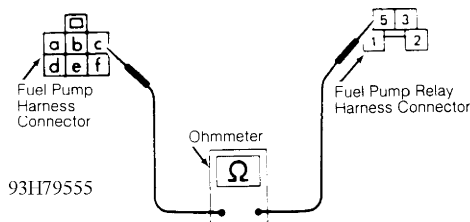

Fig. 13: Testing Fuel Pump System (Maxima VE30DE)
2) Turn ignition off. Disconnect fuel pump relay. Fuel pump relay is located inside trunk trim, near striker. Turn ignition on. Measure voltage between ground and fuel pump relay harness connector terminals No. 2 (Blue wire) and No. 3 (Blue wire). See Fig. 13. Battery voltage should be present. If battery voltage is present, go to next step. If battery voltage is not present, check 10-amp fuse in main fuse box. Check harness continuity between fuse and fuel pump relay. Repair or replace as necessary.
3) Turn ignition off. Disconnect fuel pump harness connector, located under rear seat cushion. Check continuity between ground and fuel pump harness connector terminal "a" (Black wire). Check continuity between fuel pump relay harness connector terminal No. 5 (Red/Blue wire) and fuel pump harness connector terminal "c" (Red/Blue wire). See Fig. 13. Continuity should exist in both checks. If continuity exists in both checks, go to next step. If continuity does not exist in either check, repair appropriate harness or connectors.
2) Turn ignition off. Disconnect fuel pump relay. Fuel pump relay is located in fuse box next to battery. Turn ignition on. Measure voltage between ground and fuel pump relay harness connector terminals No. 1 (Black/White wire) and No. 5 (Black/White wire). For terminal identification, see Fig. 13. Battery voltage should be present. If battery voltage is present, go to next step. If battery voltage is not present, check 10-amp fuse in main fuse box. Check harness continuity between fuse and fuel pump relay. Repair or replace as necessary.
3) Turn ignition off. Disconnect fuel pump harness connector, located under rear seat. Check continuity between ground and fuel pump harness connector terminal "a" (Black wire). Check continuity between fuel pump relay harness connector terminal No. 3 (Black/Yellow wire) and fuel pump harness connector terminal "c" (Black/Yellow wire). For terminal identification, see Fig. 13. Continuity should exist in both checks. If continuity exists in both checks, go to next step. If continuity does not exist, repair appropriate harness or connectors.